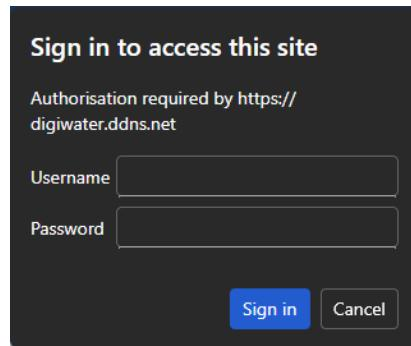

Figure 1.1. Fill username and password to access the platform
- Provide username and password when asked (Figure 1.1).